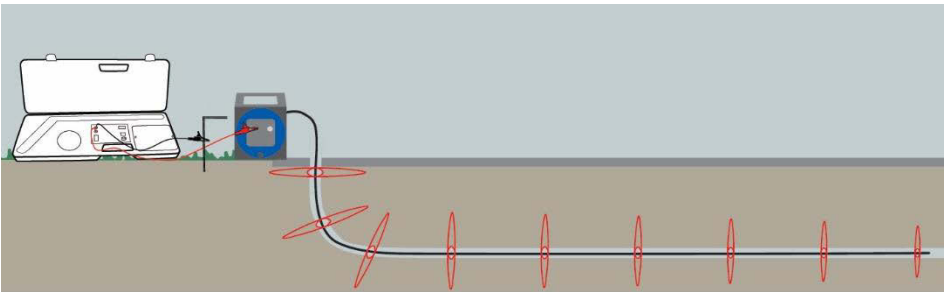

Figure 1
2. Using the transmitter of your wire locator, connect the red alligator clip to the red knob on the Pro65 plastic pipe tracer. Connect the black alligator clip to the ground stake included with your wire tracker. See Figure 1 below.